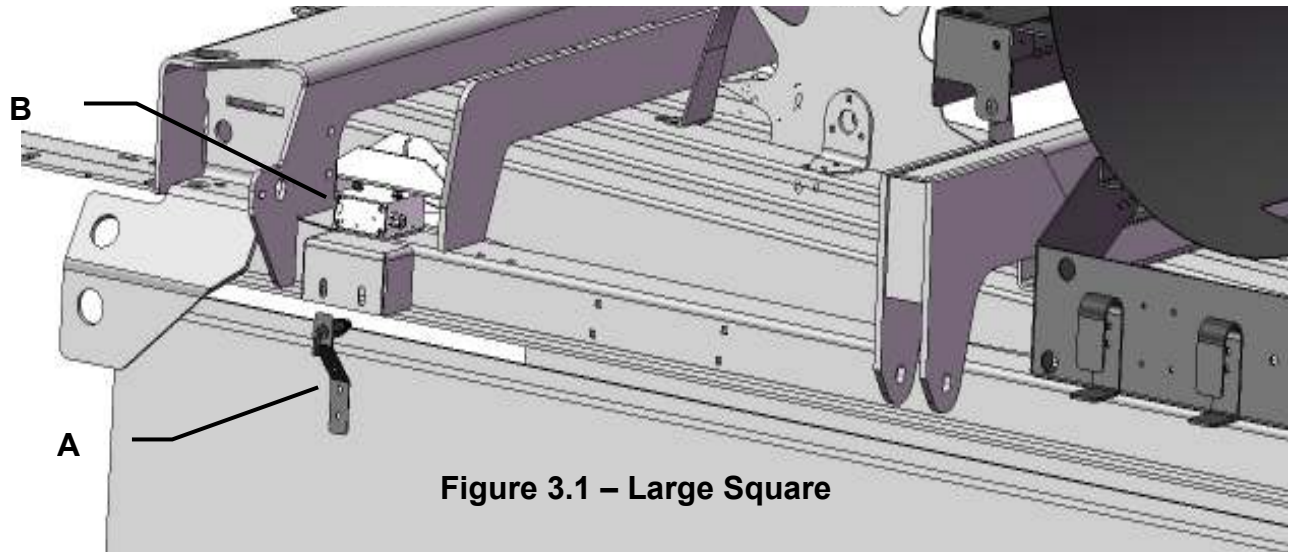
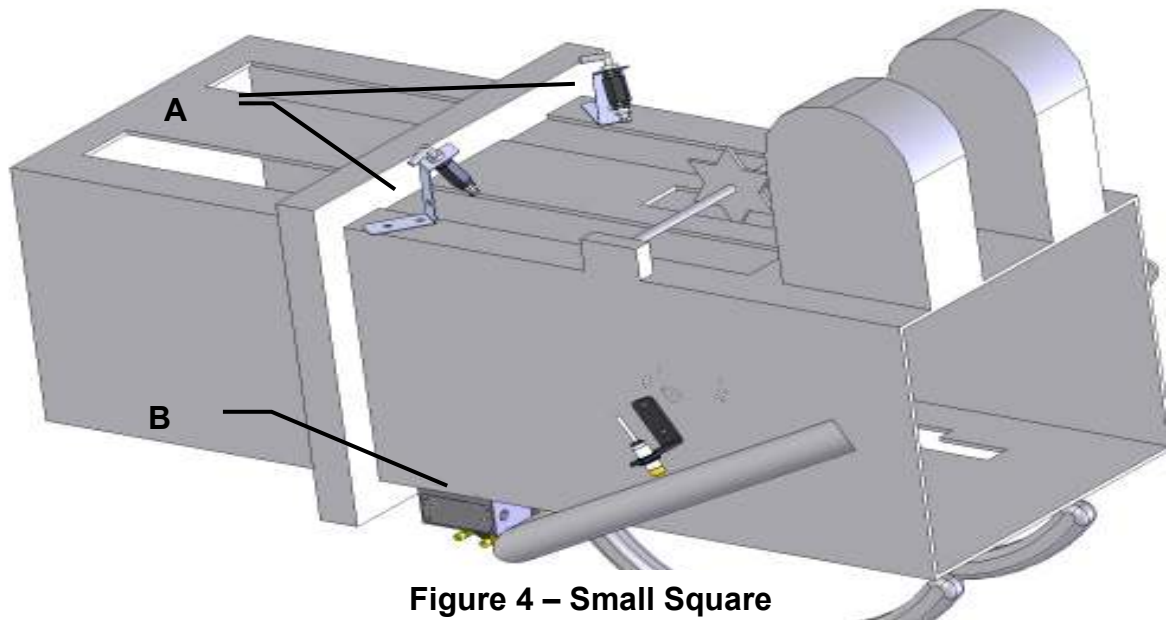
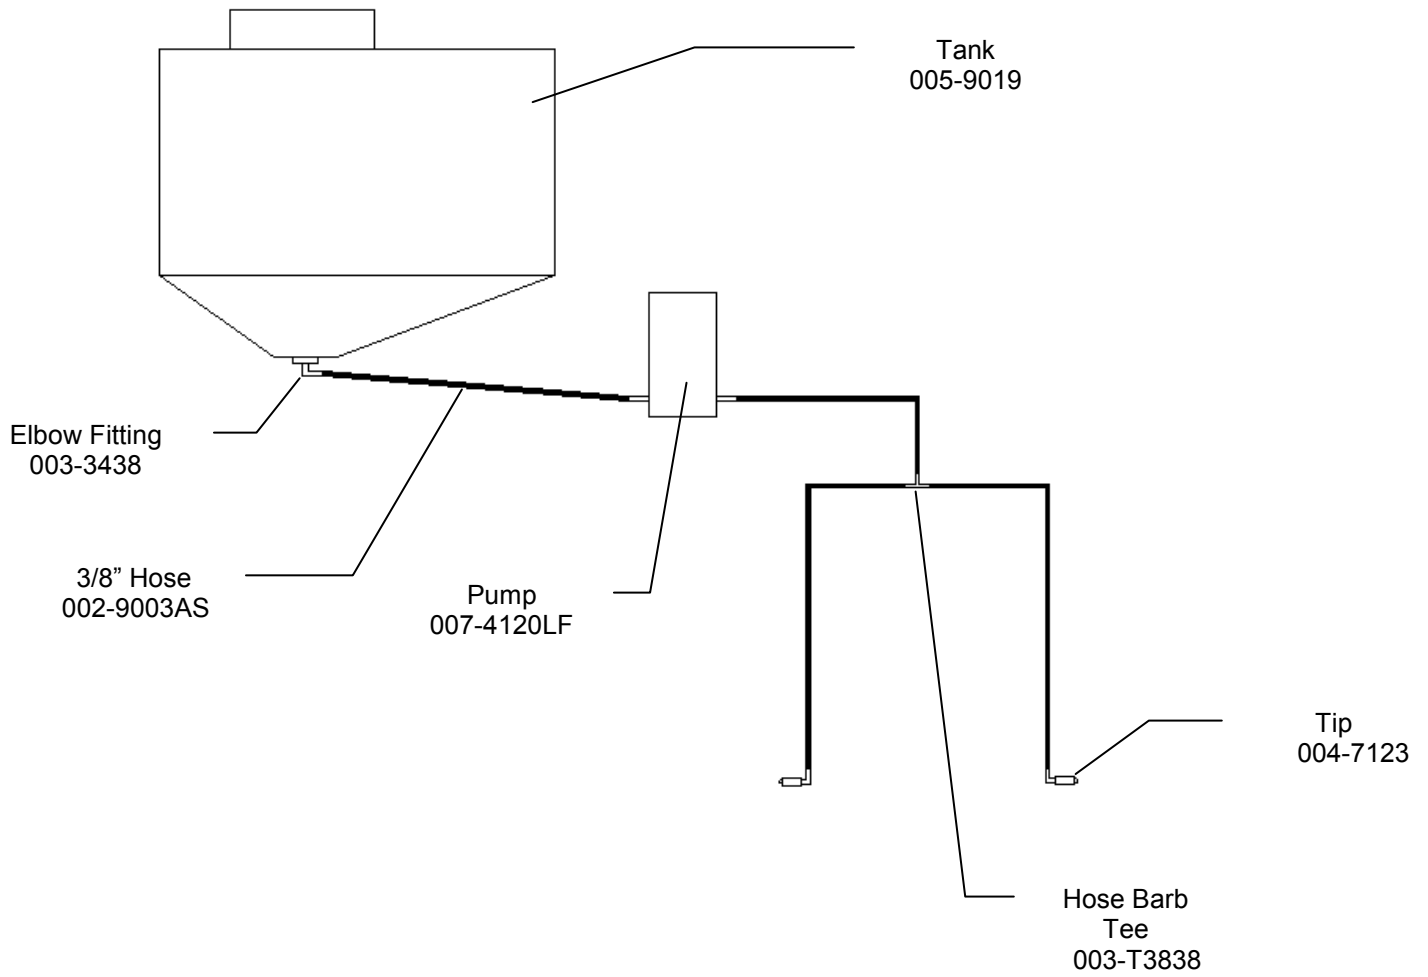

Figure 3.1 – Large Square
Figure 4 – Small Square
Figure 5
2. Install the tip and nozzle holder assemblies in the suggested locations pictured below. Use the 1/4" hardware provided to do so. (Figure 3.1&3.2 - Large Squares; Figure 4 - Small Squares)
- a. Make sure that the tip assemblies (A) are mounted in line with the star wheels (B) so that the system is marking the wet spots of the bale.
3. Once the nozzle holders are fastened to the balers, route the 3/8" hose to the tips. Make sure to fasten the hose securely but avoid pinching the lines. (Plumbing Diagram pictured in Figure 5)